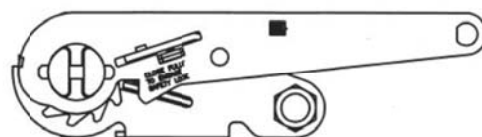

Figure 4.
6. **Close ratchet handle FULLY to engage safety lock.** (fig. 4)
4. **Close ratchet handle FULLY to engage safety lock.** (fig. 4)